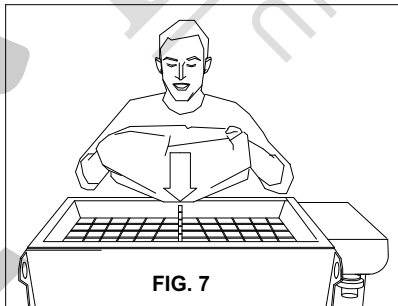

FIG. 7
- Load the pre-mixed dry material. Take the bags of material and place them securely on the bag splitter grid (ref.10,fig.1), lift the two end corners of the bag to completely empty the contents into the hopper (fig.7).